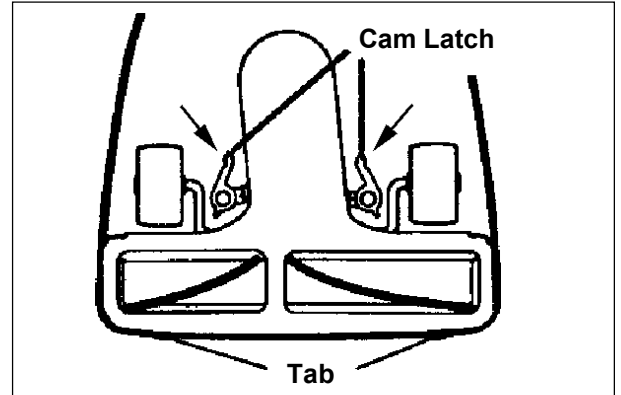

Figure 8
- To install the chrome bottom plate, put the tab on the base in the slot in the plate. Press the center of the plate against the base of the machine. Turn the cam latches to fasten the plate to the base. See figure 8.